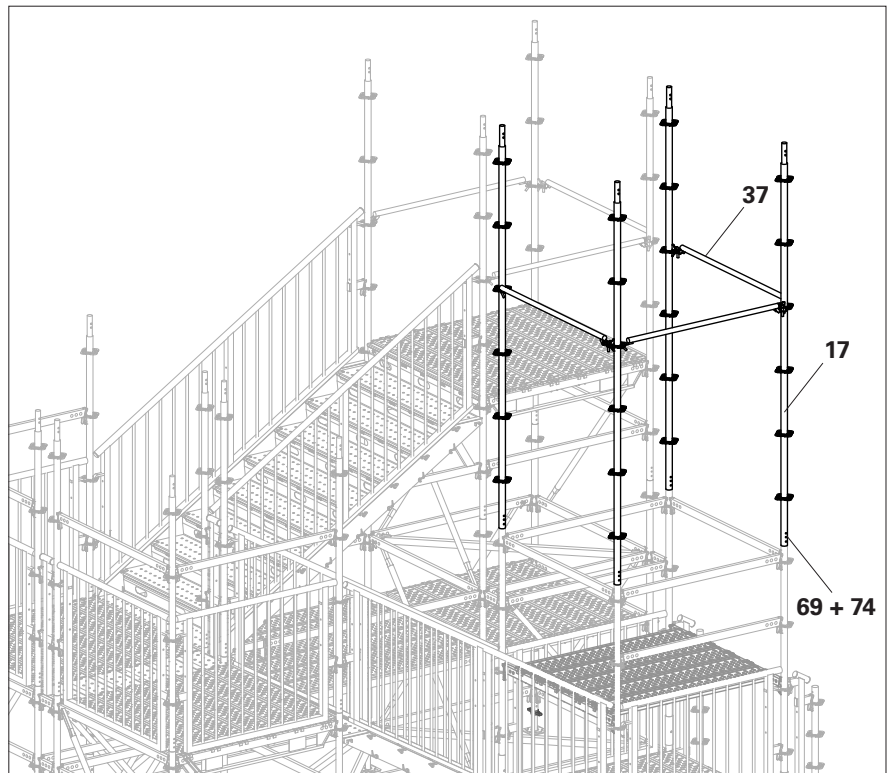

Fig. B3.07
2. Connect standards with bolt (**69**) and nut (**74**) so that they are tension-proof. (Fig. B3.07)